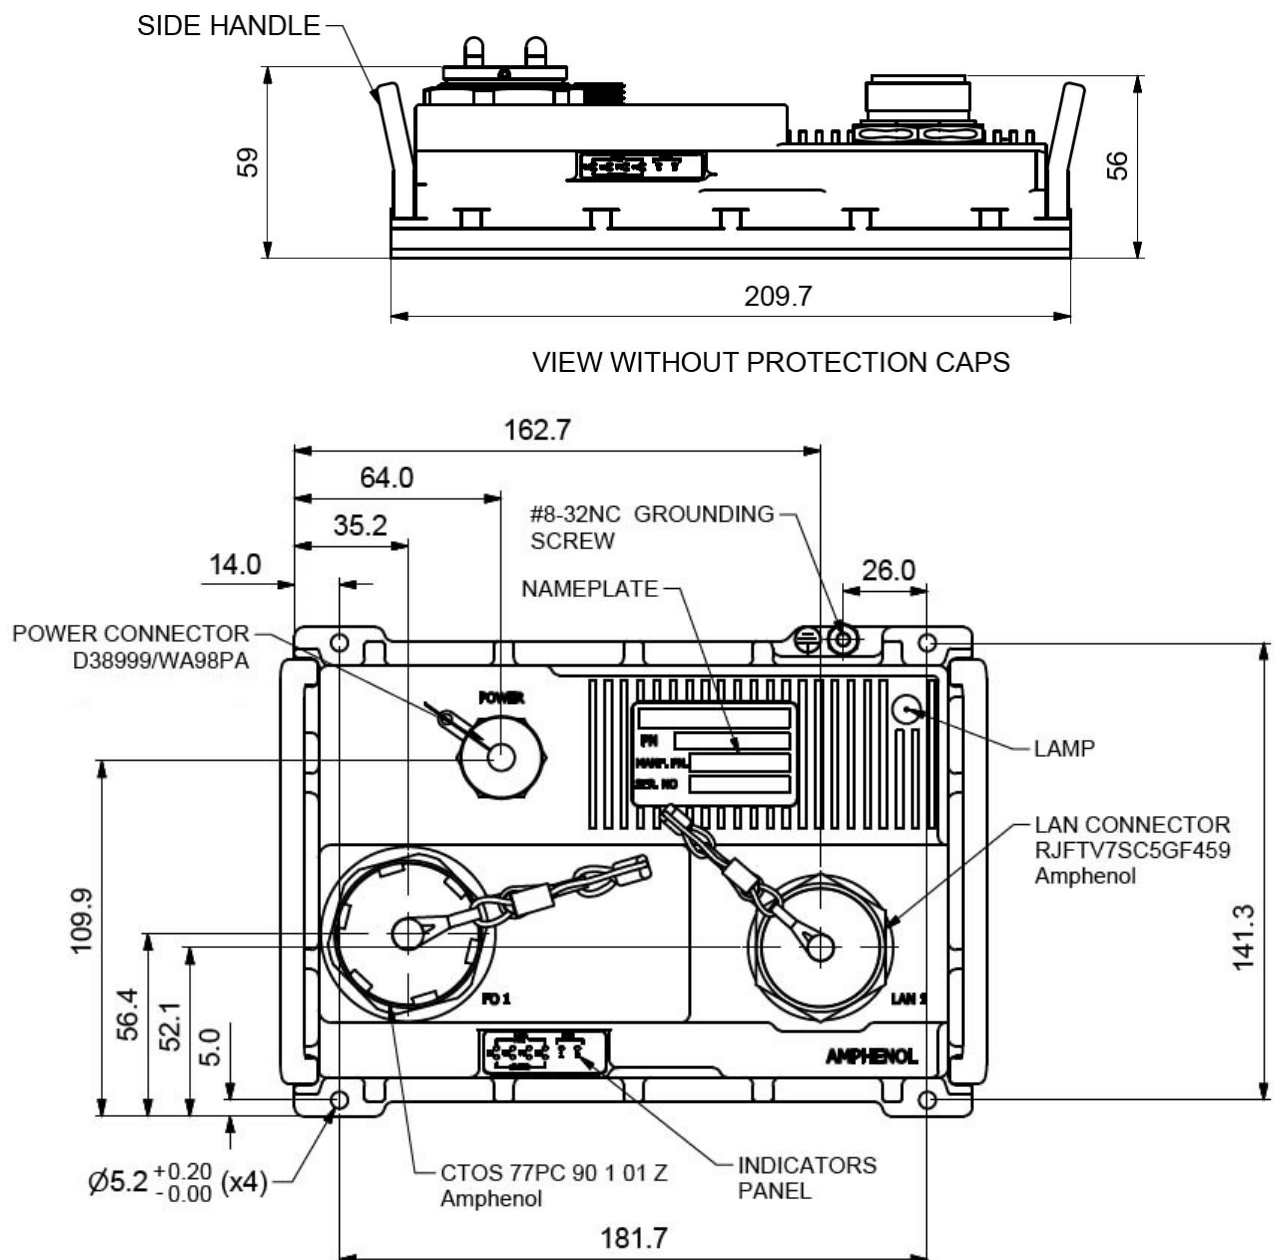

Figure 2 : RES-GMC-1S-RJF-CTOS Physical Dimensions
3. Fold back the braid on the outer jacket and fix it (figure 2).